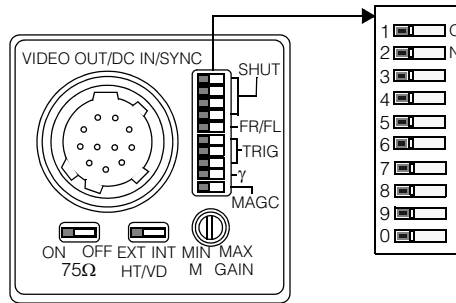

Figure 8. Sony XC-ES50 camera back panel
Figure 8 shows the back panel of the Sony XC-ES50 camera with the switches in their factory default position.
1. Configure the 10-position DIP switch as shown in Figure 8.